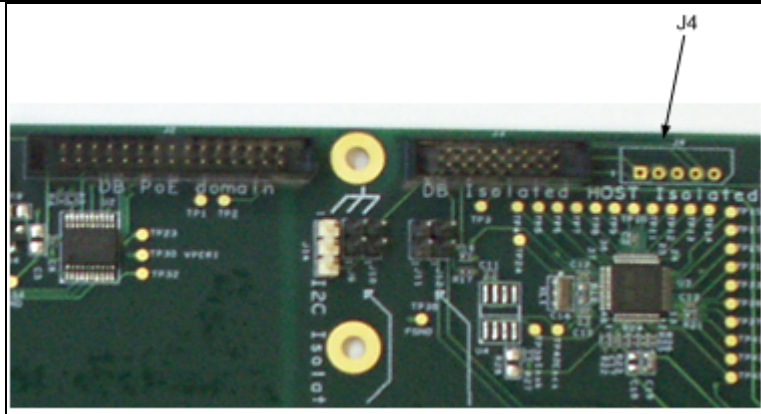

Figure 9: Isolated External Host
5. Isolated External Host (see Figure 9)